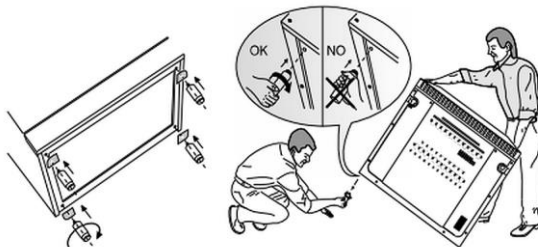

Fig. 2
- Mount the supplied feet by screwing them into the designed holes under the appliance (Fig. 2)